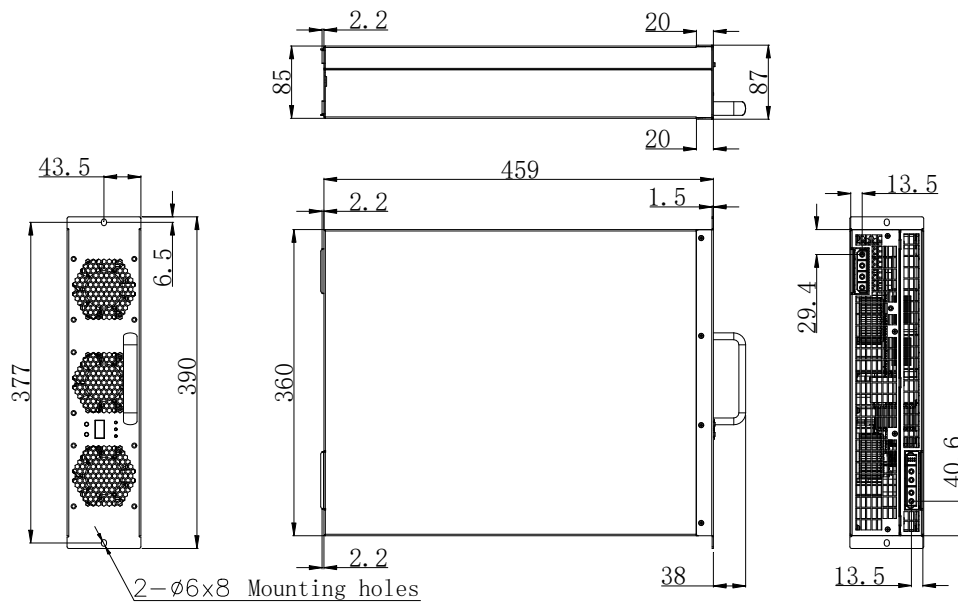

Figure 2-6 Module Dimensions (mm)
2.2.1 The dimension of MXR100030 is shown in figure 2-6.